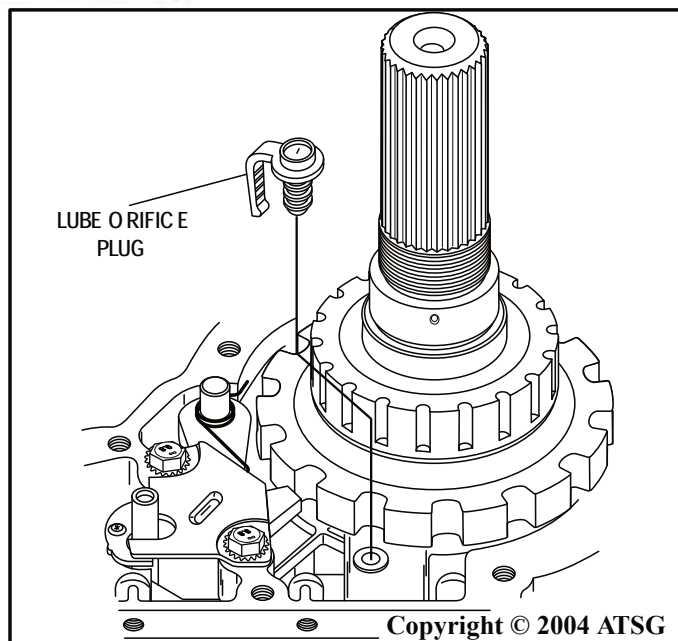

Figure 65
23. Install a new lube orifice plug in the case, as shown in Figure 65.